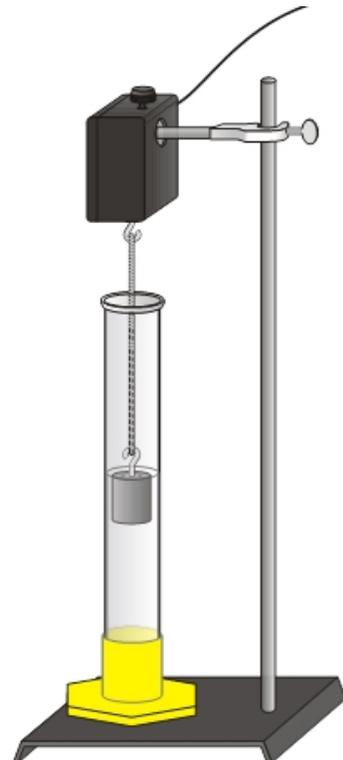

Figure 1
- a. Fasten the Force Sensor to a ring stand as shown in Figure 1.